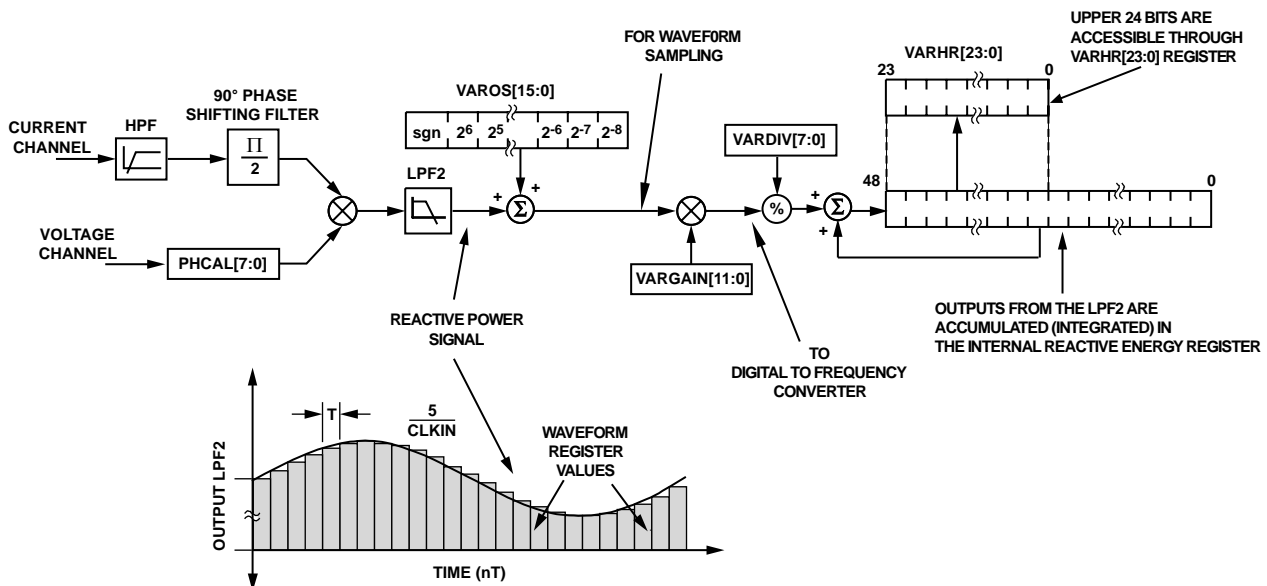

Figure 45. ADE75XX/ADE71XX Reactive Energy Calculation
Note that the reactive power is equal to the dc component of the instantaneous reactive power signal $q(t)$ in Equation 25. This is the relationship used to calculate reactive power in the ADE75XX/ADE71XX. The instantaneous reactive power signal $q(t)$ is generated by multiplying Voltage and Current channels. In this case, the phase of Current channel is shifted by +90°. The dc component of the instantaneous reactive power signal is then extracted by a low-pass filter in order to obtain the reactive power information – see Figure 45.
Figure 45 shows the signal processing chain for the reactive power calculation in the ADE75XX/ADE71XX. As explained, the reactive power is calculated by low-pass filtering the instantaneous reactive power signal. Note that when reading the waveform samples from the output of LPF2, the gain of the reactive energy can be adjusted by using the multiplier and var gain register (VARGAIN[11:0]). The gain is adjusted by writing a twos complement 12-bit word to the var gain register. Equation 11 shows how the gain adjustment is related to the contents of the watt gain register:
The ADE75XX/ADE71XX also incorporates a reactive power offset register (VAROS[15:0]). This is a signed twos complement 16-bit register that can be used to remove offsets in the reactive power calculation—see Figure 45. An offset could exist in the reactive power calculation due to crosstalk between channels on the PCB or in the IC itself. The offset calibration allows the contents of the reactive power register to be
The discrete time sample period (T) for the accumulation register in the ADE75XX/ADE71XX is $1.22\mu\text{s}$ ($5/\text{MCLK}$). As well as calculating the energy, this integration removes any sinusoidal components that might be in the active power signal. Figure 45 shows this discrete time integration or accumulation. The reactive power signal in the waveform register is continuously added to the internal reactive energy register.
The output of the multiplier is divided by VARDIV. If the value in the VARDIV register is equal to 0, then the internal reactive energy register is divided by 1. VARDIV is an 8-bit unsigned register. After dividing by VARDIV, the reactive energy is accumulated in a 49-bit internal energy accumulation register. The upper 24 bits of this register are accessible through a read to the reactive energy register (VARHR[23:0]). A read to the RVARHR register returns the content of the VARHR register and the upper 24 bits of the internal register are cleared. As shown in Figure 45, the reactive power signal is accumulated in an internal 49-bit signed register. The reactive power signal can be read from the waveform register by setting the WAVMODE register (0x0D) and setting the WFSM bit in the Interrupt Enable Register 3 SFR (MIRQENH, 0xDB). Like the current and voltage channels waveform sampling modes, the waveform data is available at sample rates of 27.9 kSPS, 14 kSPS, 7 kSPS, or 3.5 kSPS.